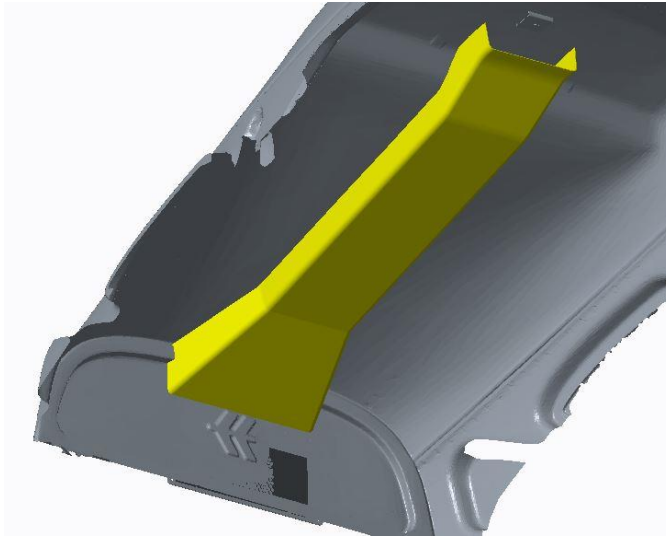

Figure 37 - Mount Rear Duct Cover
- 1) Trim the AC-02066 Rear Duct Cover as necessary for a clean fit, then cosmetically apply 8507K52 Edge Trim all around. Attach the Duct Cover with (6) AN525-832R8 Washer Head Screws. Seal the skirt of the Duct Cover where it connects with the Evaporator outlets with 8694K68 Foam and Edge Trim. See Figure 37.